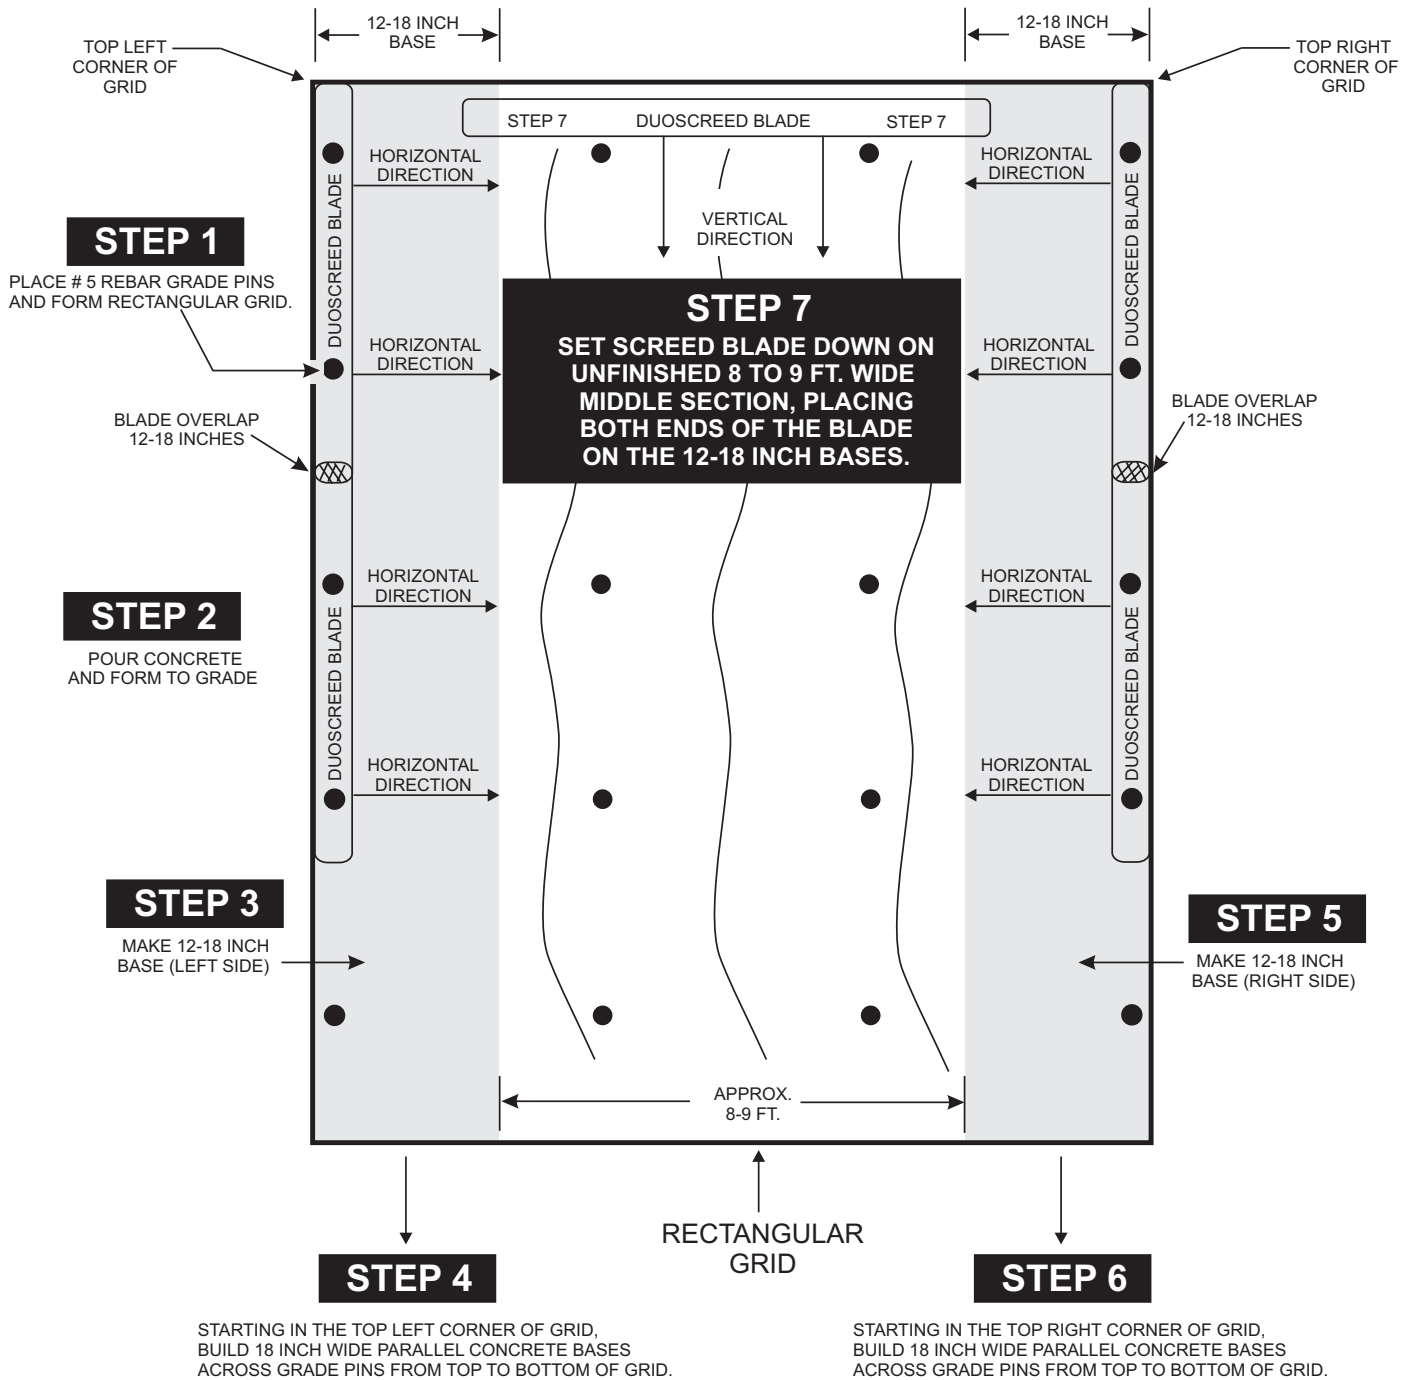

Figure 16. DuoScreed Wet Screeding Application
8. Set the DuoScreed blade down in the concrete base in the **left**most corner of the grid between the two grade pins as shown in Figure 16. Adjust the DuoScreed's handle bar to a height where the operators is not bending over, but standing upright with arms extended forward.
12. After a complete pass over the first set of grade pins has been made, remove the DuoScreed from the concrete base and position it over the second set of grade pins (Figure 16), overlapping the first set of grade pins between 12-18 inches. Repete this process until all **left** edge grade pins have a level base between 12-18 inches wide.